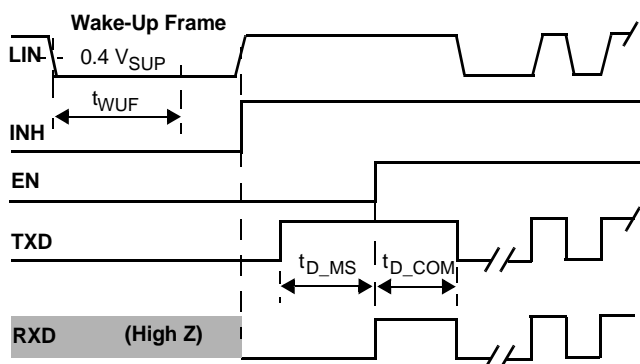

Figure 11. LIN Bus Wake-Up and Normal Baud Rate Selection (1.0 kbps to 20 kbps)
- 11 See Figures 11 and 12, 11.
The LIN bus wake-up is recognized by a recessive-to-dominant transition, followed by a dominant level with a duration greater than 70 μ s, followed by a dominant-to-recessive transition. This is illustrated in Figures 11 and 12 on 11. Once the wake-up is detected, the 33661 enters the Awake transitional mode, with INH HIGH and RXD pulled LOW.